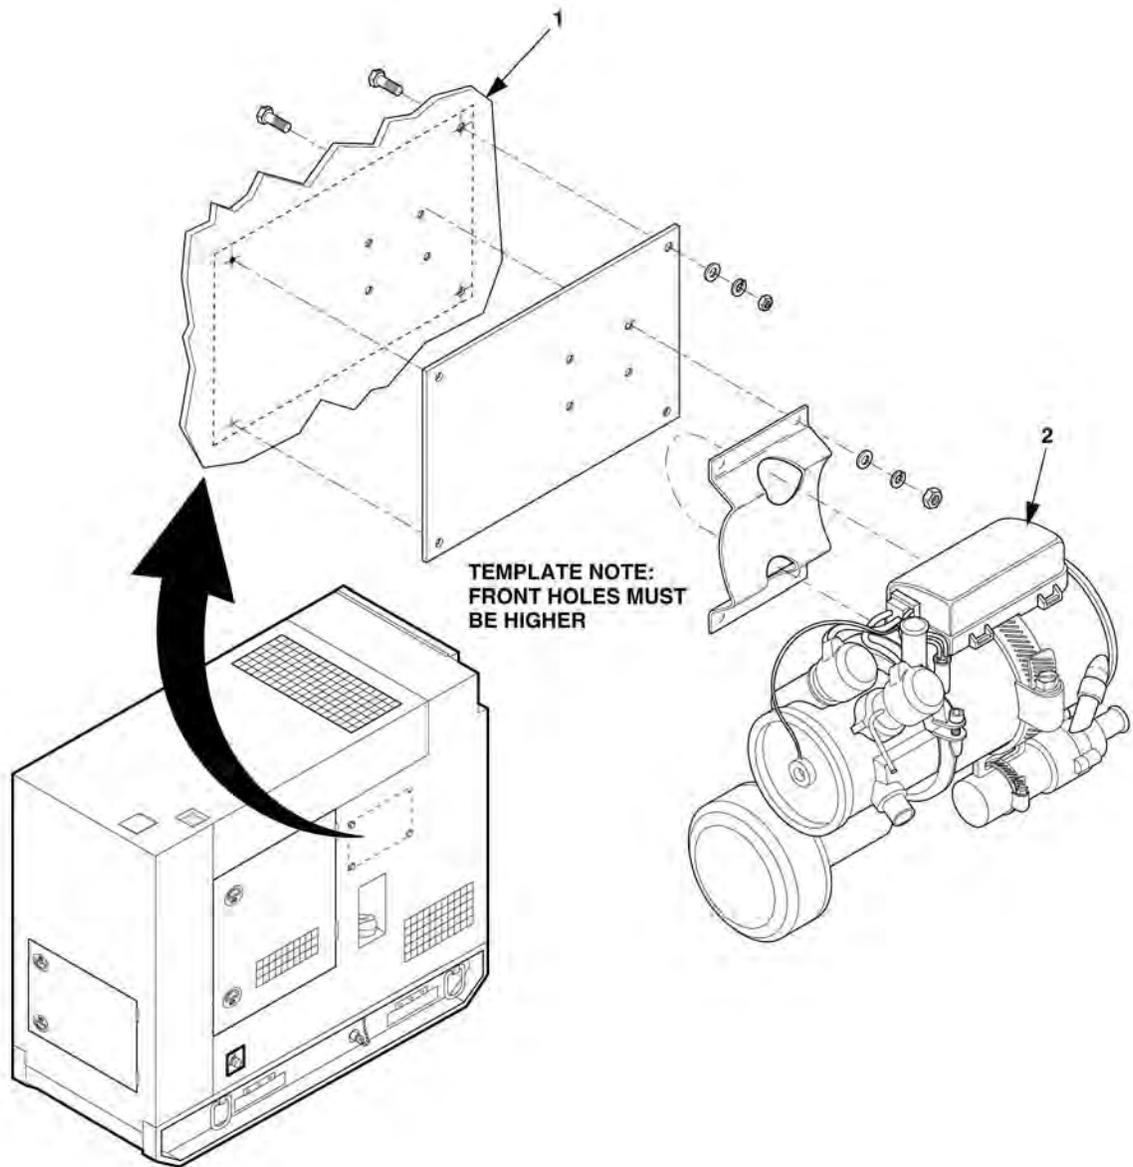

**Figure 4-37. Coolant Hoses and Expansion Plug**
9. Loosen clamps (1), Figure 4-37 and remove coolant hoses (3) from tee fitting (4) and expansion plug (2). Be sure to use a suitable container to catch coolant from hoses. Remove expansion plug (2) from rear of engine block and replace with new one. Refer to engine TM 9-6115-254-24. Remove coolant hose tee fitting (4) from lower radiator hose (5) and replace with new radiator hose.